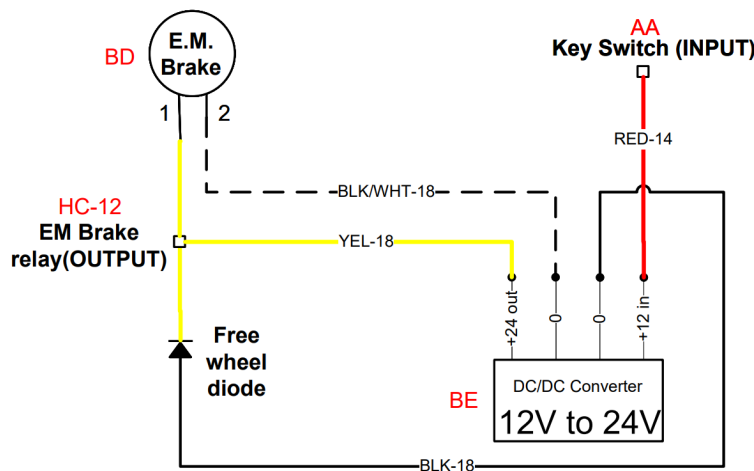

Figure 64. DC/DC Converter Input and Output Terminals Inspection.
2.1.1. Check for the presence of voltage between the positive terminal (**B+**) (Red Wire - 14 AWG) and the negative terminal (**B-**) (Black Wire - 18 AWG) of the DC/DC converter (As shown in Figure 64).
2.2.1. Check for the presence of voltage between the Yellow wire (18 AWG) and the Black/White wire (18 AWG) of the DC/DC converter (As shown in Figure 64).